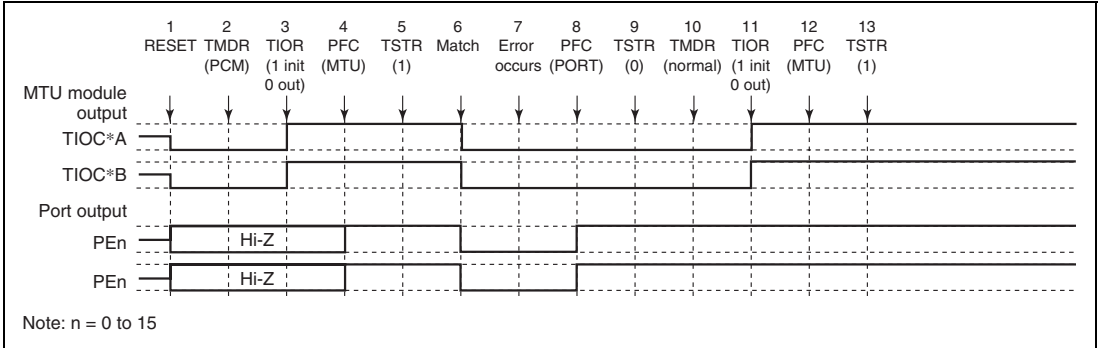

Figure 8.100 Error Occurrence in Phase Counting Mode, Recovery in Normal Mode
(17) Operation when Error Occurs during Phase Counting Mode Operation, and Operation is Restarted in Normal Mode: Figure 8.100 shows an explanatory diagram of the case where an error occurs in phase counting mode and operation is restarted in normal mode after re-setting.
1 to 9 are the same as in figure 8.100.